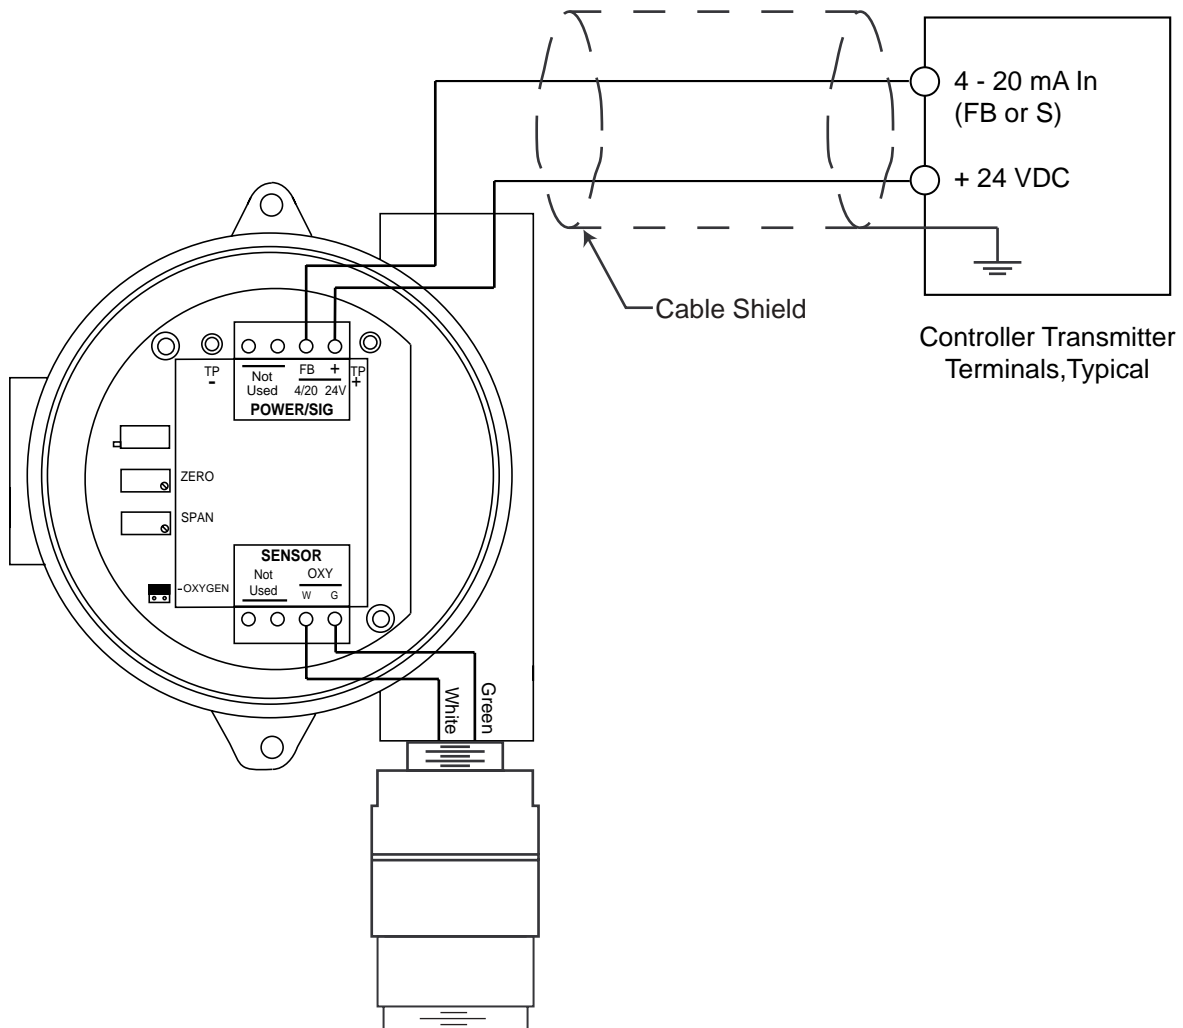

Figure 3: Wiring the Oxygen Transmitter to a Controller
4. Verify that the detector leads are wired to the amplifier's detector terminal strip. If necessary, connect the detector leads to the detector terminal strip as shown in Figure 3.
5. Verify that the jumper block is installed over the **Oxygen** selector of the amplifier type selector as shown in Figure 3.
7. Connect the two wires to the interconnect terminal strip as follows (see Figure 3.)
10. Connect the wires to the applicable controller transmitter terminal strip as shown in Figure 3.
9. Verify that the jumper block is installed over the **OXYGEN** selector of the amplifier type selector as shown in Figure 3.
10. Reconnect the wiring from the controller to the interconnect terminal strip as shown in Table 3 and Figure 3.
11. Reconnect the detector leads to the detector terminal strip as shown in Table 4 and Figure 3.